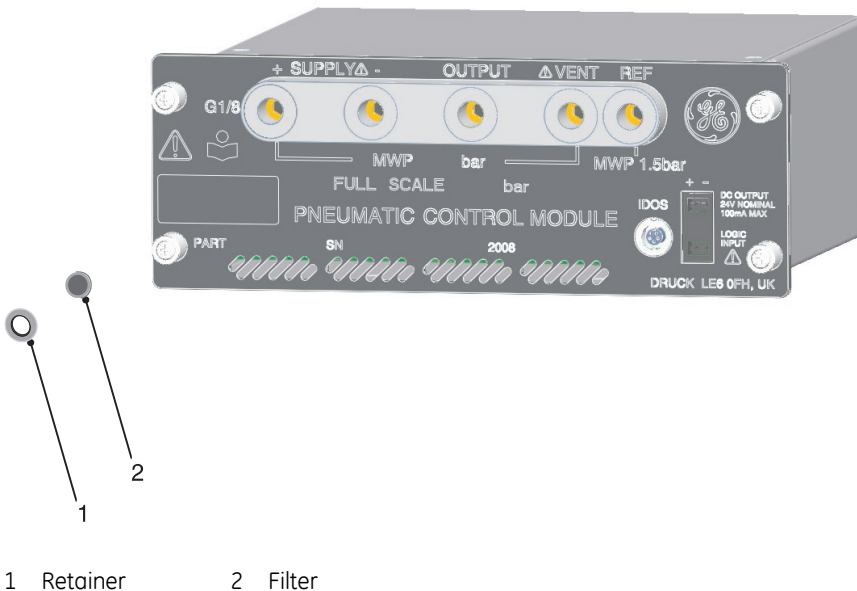

Figure 4-2 Pressure module filters
4.8 Filter replacement (Fig 4-2)